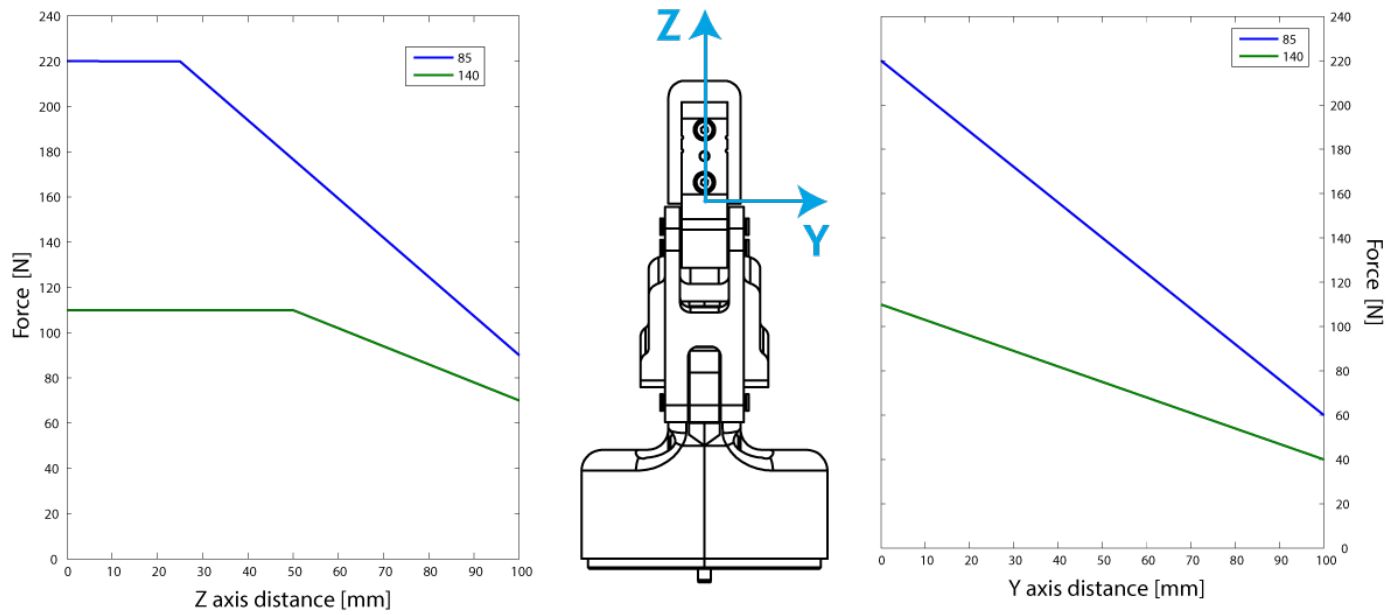

Fig. 6-18: Grip force in the Y and Z axis for the 2-Finger 85 and 2-Finger 140.
- Fingertip must not exceed 100 mm in width from the fingertip's base (refer to Y axis from figure 6-18).
The user of the Gripper must always ensure that the result of the forces against the finger is always lower than the maximum holding force as seen in figure 6-18.
* Moments in x and y are calculated from the base of the fingertips as shown in figure 6-18.